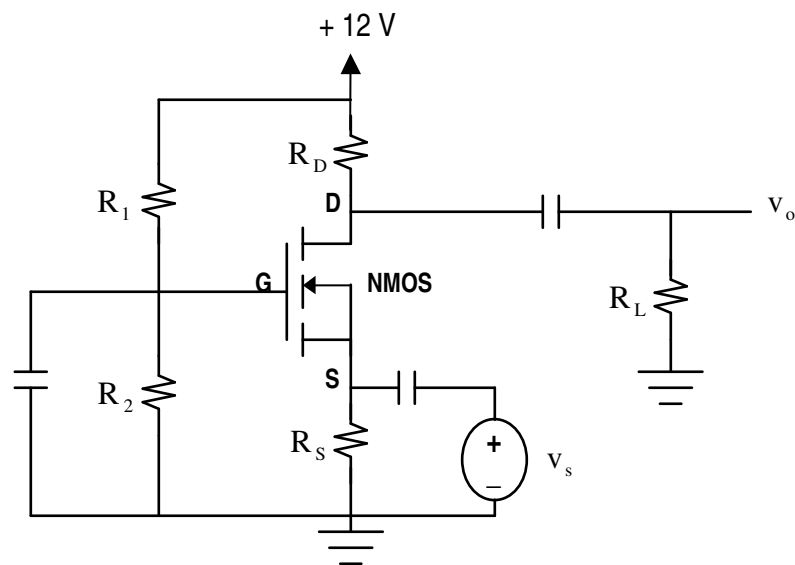

Figure P7.6
- 7.6 The parameters of the NMOS transistor in the **common-gate** amplifier circuit of **Figure P7.6** are $K_N = 1.2 \text{ mA/V}^2$ and $V_T = 1.4 \text{ V}$. The resistors in the circuit are $R_1 = 60 \text{ k}\Omega$, $R_2 = 40 \text{ k}\Omega$, $R_S = 2 \text{ k}\Omega$, $R_D = 3 \text{ k}\Omega$, and $R_L = 3 \text{ k}\Omega$. Determine the dc operating point and sketch the dc and ac load lines. Calculate the small-signal voltage, current, and power gains. What are the input and output resistances?
- 7.7 If the load resistance R_L is removed from the circuit in **Figure P7.6**, determine the voltage, current, and power gains for the modified circuit. What are the input and output resistances in this case?